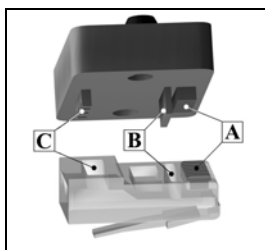

Fig.1.
*Note: Fig.1. represents unshielded 8P microplug and corresponding part of die-set. Shielded microplugs lack primary (3) and secondary (2) strain relief booth and unshielded CAT5 plugs lack secondary (2) strain relief booth. Choose die-sets correspondingly.